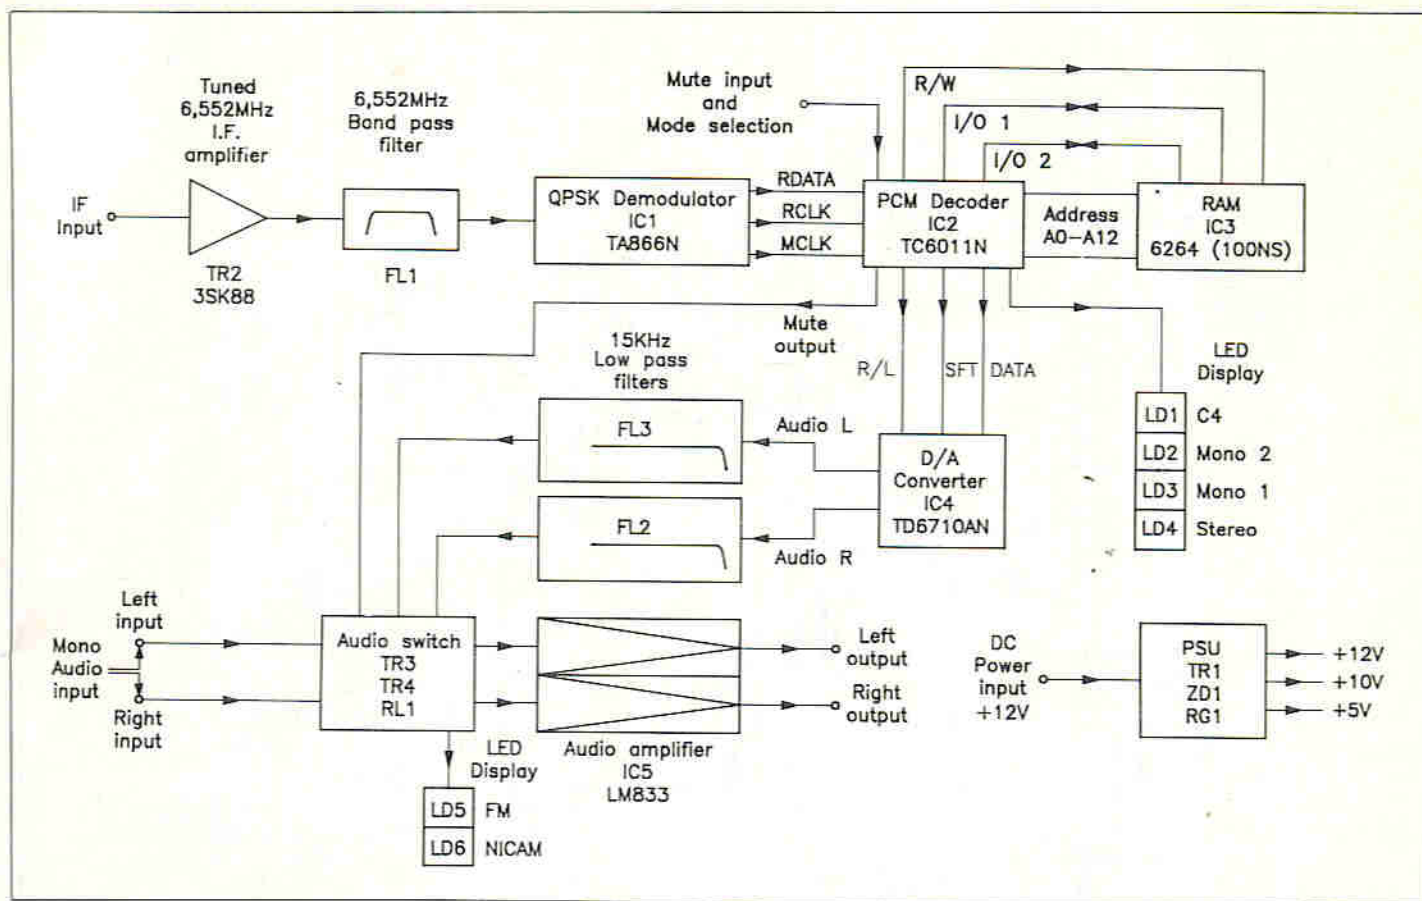
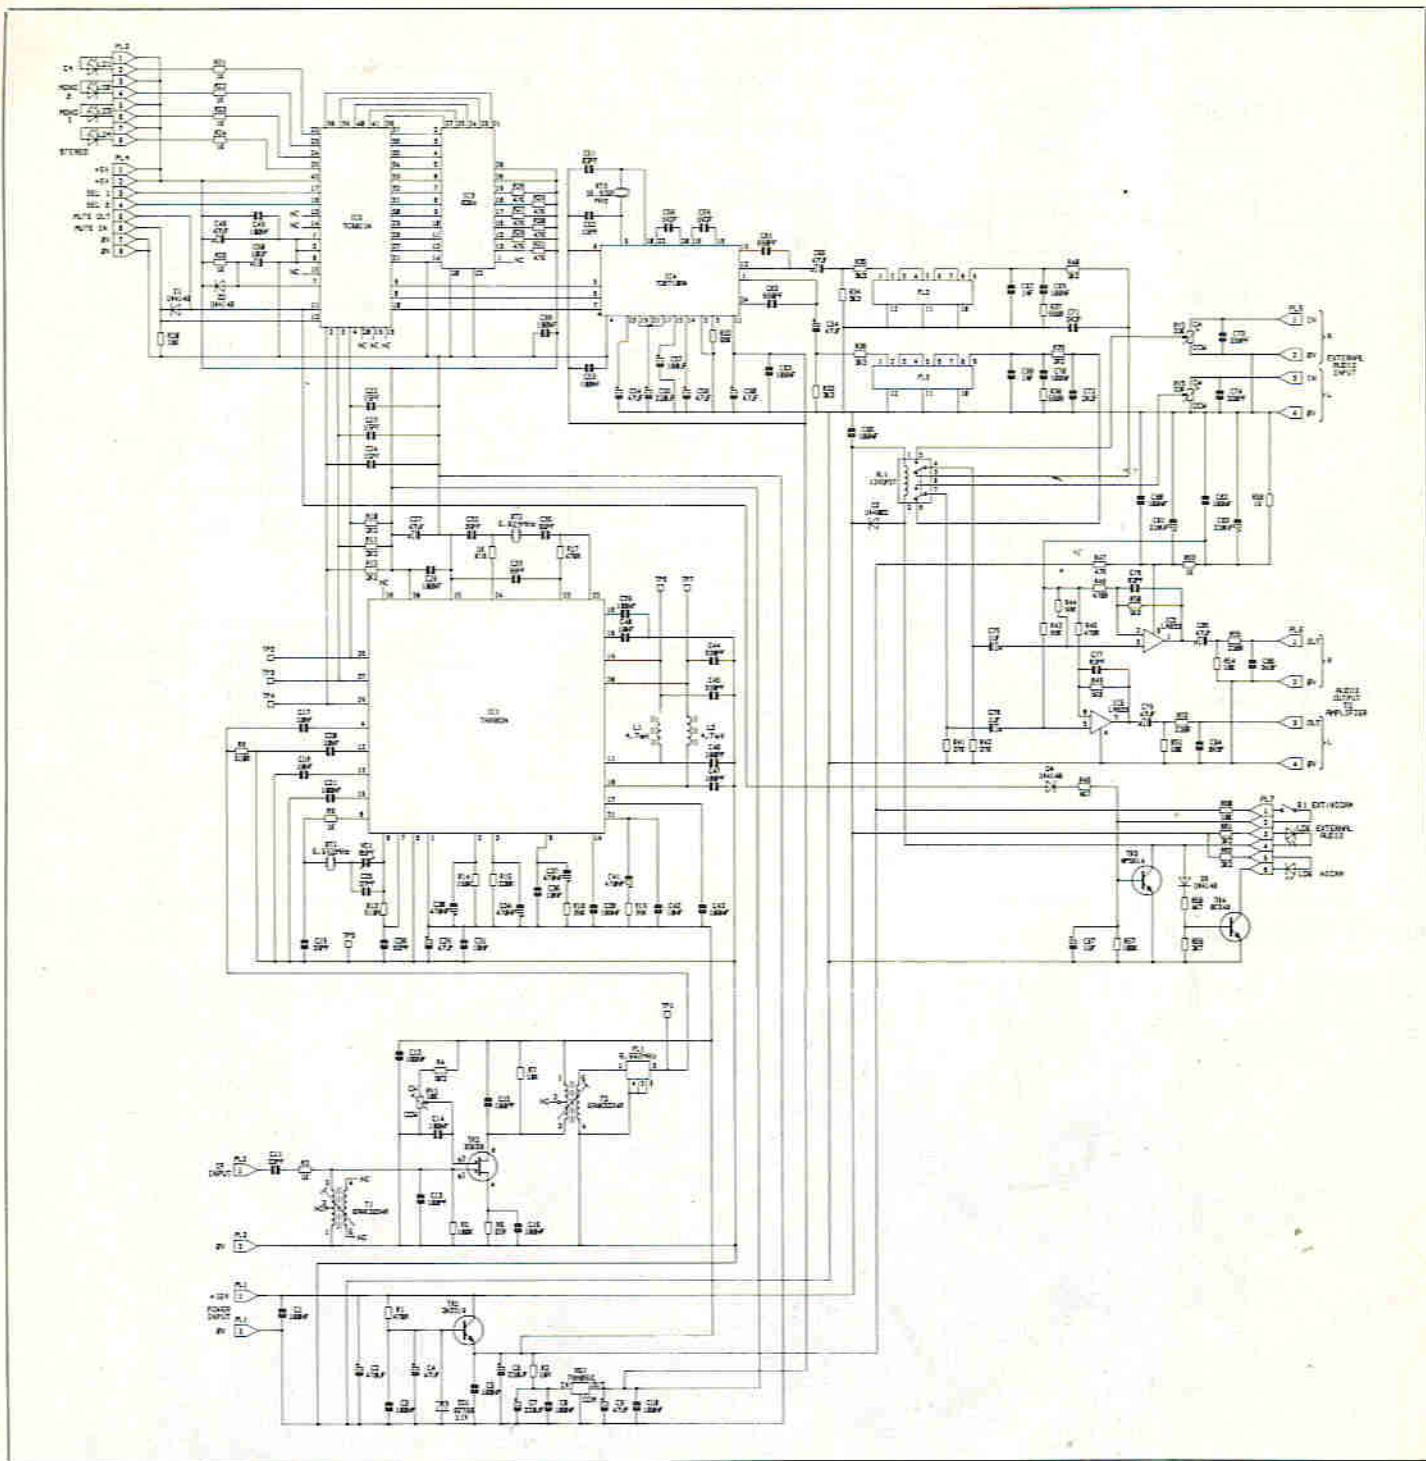

Figure 2. Block diagram.
Figure 3. Circuit diagram.
In addition to the circuit shown in Figure 3, a block diagram is detailed in Figure 2. This should assist you when following the circuit description or fault finding in the completed unit. All the inputs and outputs of the circuit are taken to 'Minicon' locking plug assemblies, numbered PL1 to PL7 and the same amount of 'pins' are used for test point connections, TP1 to TP7. The DC power for the unit is applied to PL1, positive to pin 1 and negative to pin 2. This supply must be within the range of 11V to 13V and have the correct polarity, otherwise damage will occur to the semiconductors and polarised components. The input voltage, decoupled by C1, C2 is only used directly to energise the relay coil in RL1 and illuminate the light emitting diodes (LED) LD5, LD6. All the other semiconductors are powered from either a +10V or +5V regulated supply, generated by TR1 and RG1. TR1 is used as a series voltage regulator with the reference voltage on its base provided by an 11V zener diode, ZD1, decoupled by C3, C4. The voltage that appears on the emitter of TR1 should be close to +10V and is decoupled by C5, C6. This voltage is passed through R2 and further decoupling is provided by C7, C8 on the input of the +5V regulator RG1. The output of RG1 is decoupled by C9, C10 and both supplies are further decoupled at regular intervals throughout the rest of the circuit. The 6.552MHz NICAM Intermediate Frequency (IF) sig-